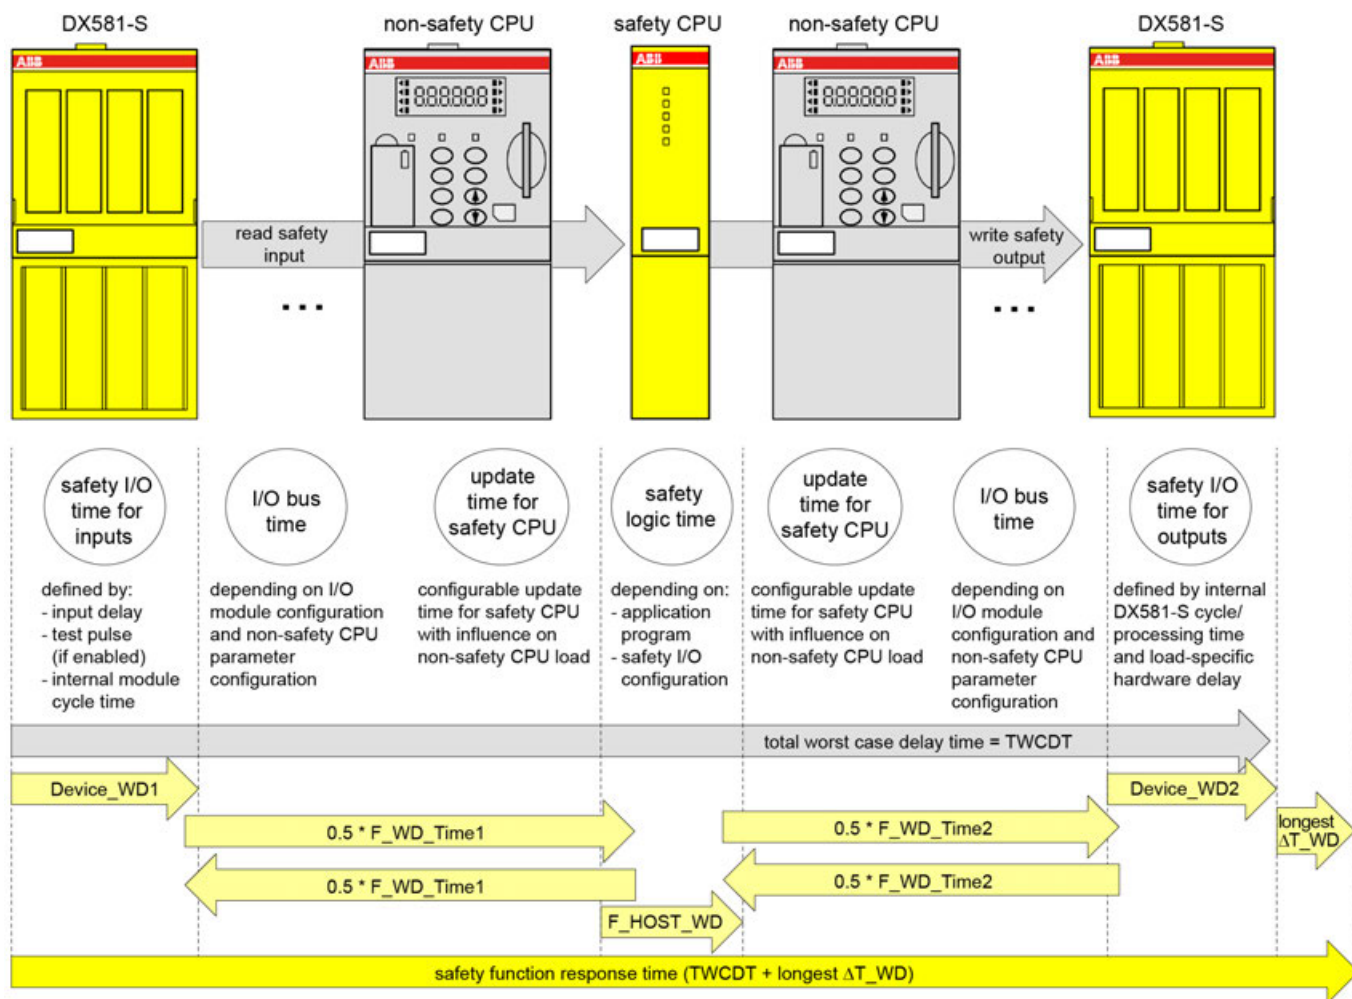
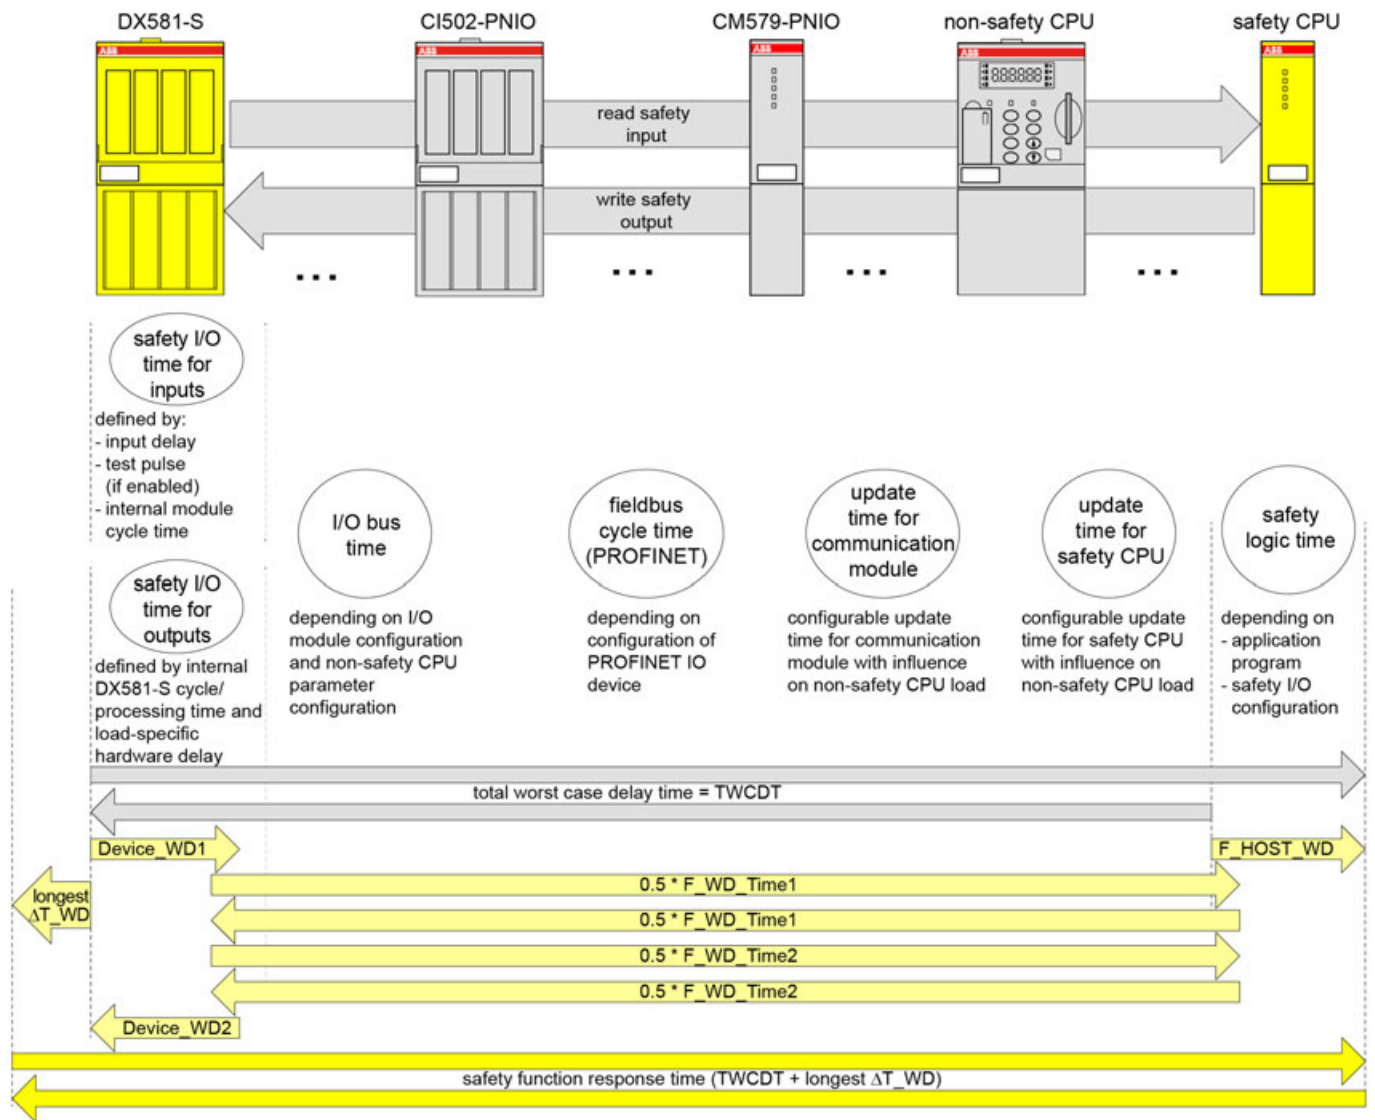
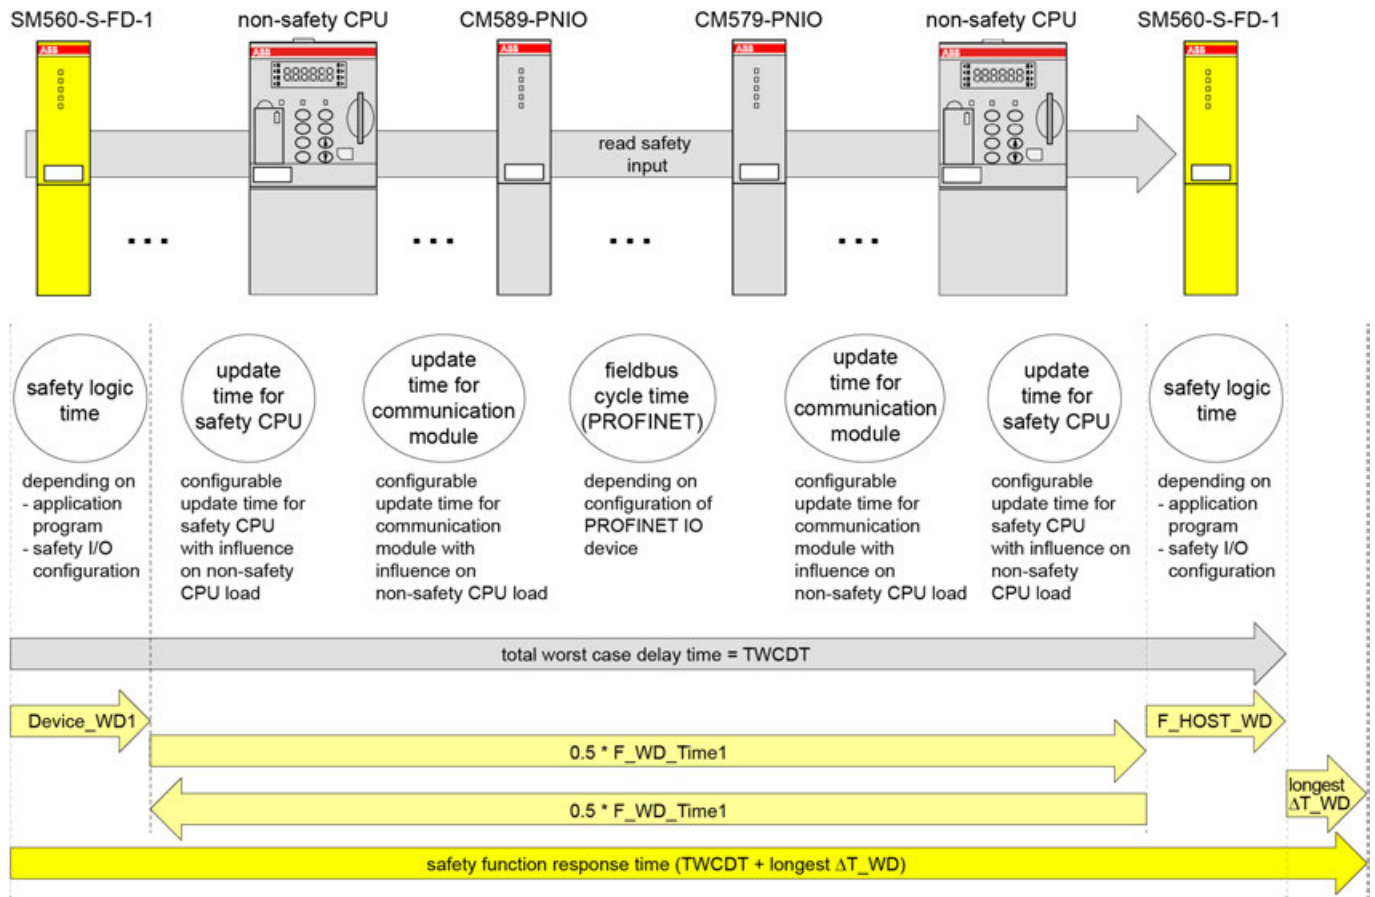

Fig. 133: SFRT in AC500-S system without PROFINET components
Fig. 134: SFRT in AC500-S system with PROFINET components and safety I/O modules
Fig. 135: SFRT in AC500-S system with PROFINET components and safe CPU to CPU communication (example: SM560-S-FD-1 to SM560-S)
Fig. 133, Fig. 134 and Fig. 135 explain SFRT in more details. The model in Fig. 133 and Fig. 134 includes the stages of input signal reading, safe data transfer, safe logic processing, safe data transfer and safe signal output. The model in Fig. 135 presents safe CPU to CPU communication, which includes the stages of safe logic processing, safe data transfer and safe logic processing.
The following terms are defined in Fig. 133, Fig. 134 and Fig. 135 (in alphabetical order):
- Device\_WD1 and Device\_WD2, as worst case delay times for safety I/Os, can be defined as it is shown in Fig. 133 and Fig. 134.
- To calculate the worst case delay time of "Black channel" components (refer to AC500 non-safety modules in Fig. 133 and Fig. 134), we propose to use half of F\_WD\_Time1 and F\_WD\_Time2 instead. F\_WD\_Time1 and F\_WD\_Time2 can be empirically obtained for the given AC500 system configuration by tracing the values of tResponseTimeMS for given safety I/Os in the safety application. Use PROFI-safe instance for the given safety I/O ↪ *Chapter 4.6.3 "SafetyBase\_PROFI-safe\_LV210\_AC500\_V22.lib" on page 201*. F\_WD\_Time1 and F\_WD\_Time2 shall be set about 30 % higher than the worst case value observed in the tResponseTimeMS for the given safety I/O.
Based on Fig. 133, Fig. 134 and Fig. 135, the following exemplary SFRT values can be achieved for some typical AC500-S configurations using Equation 2 on page 384: